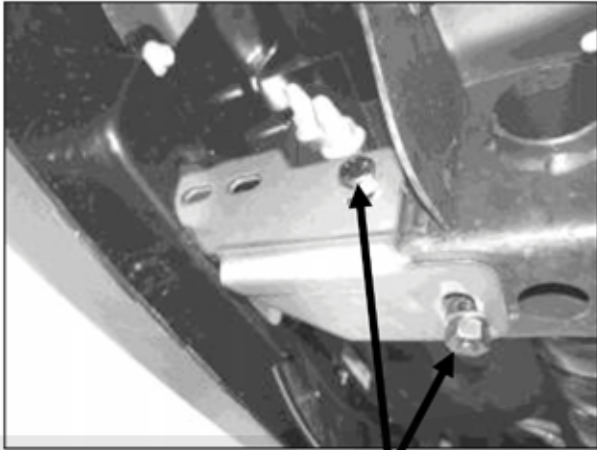

Figure 1
**2)** Determine driver and passenger Frame Brackets. NOTE: Refer to Figure above for bracket configuration. Position driver side Frame Bracket to the outside of the frame rail and secure using the included (2) 12mm x 35mm Hex Head Bolts, (2) 12mm lock Washers, (2) 12mm Hex Nuts, and (4) 12mm Flat Washers (Figure 1). Do not tighten at this time. Repeat steps 1 & 2 for passenger side Frame Bracket.